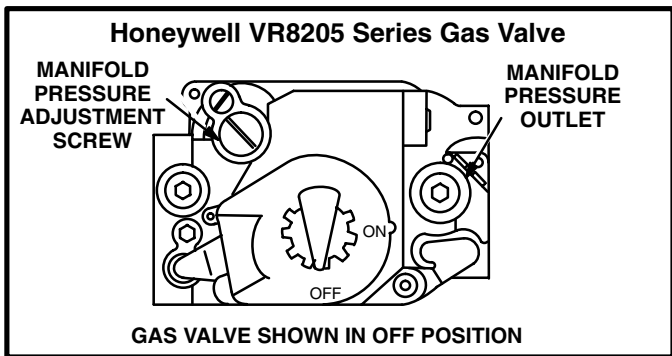

FIGURE 27
- Honeywell VR8205 Gas Valve* - Turn knob on gas valve clockwise ➡ to **OFF**. Do not force. See figure 27.